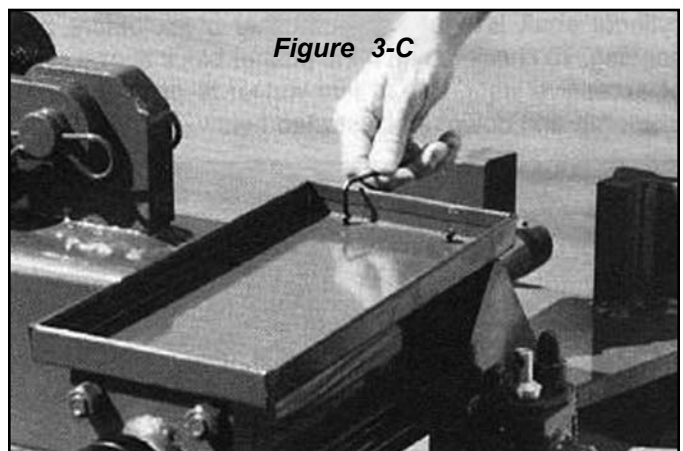

Figure 3-C
10. Remove the two allen bolts securing the swager tool tray using a 1/8" hex wrench. (See figure 3-C)